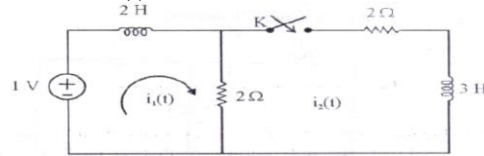

Fig. 6.58
31. In the circuit shown in Fig.6.58, find  $i_2(t)$  after the switch is closed at  $t = 0$ , using transformed circuit.